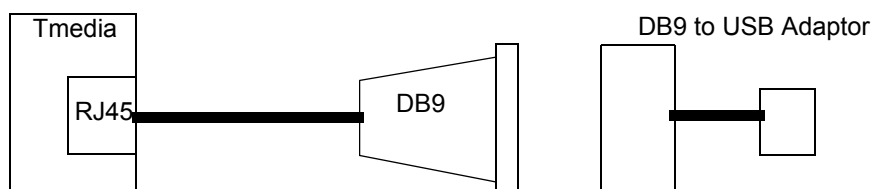

Figure 7.2 Conceptual View of a Serial Connection from the Tmedia VoIP Gateway to a Computer
2. If your computer's serial port features a DB9 connector, use the DB9 to RJ-45 adapter supplied with your Tmedia VoIP gateway. If your computer's serial port features a USB connector, you will need to provide a USB to DB9 adaptor. Refer to figure 7.2 on page 84.